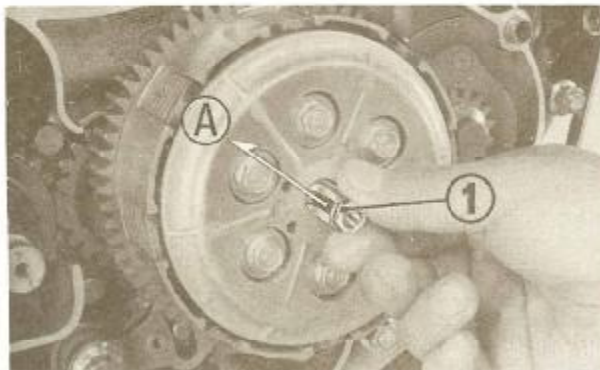

Fig. 3-20 (1) Clutch lifter rod
6. With the groove in the clutch lifter rod faced in direction (A) in Fig. 3-20, install the right crankcase cover. Insert the clutch lever and turn it clockwise to fit the tip into the groove in the clutch lifter rod.